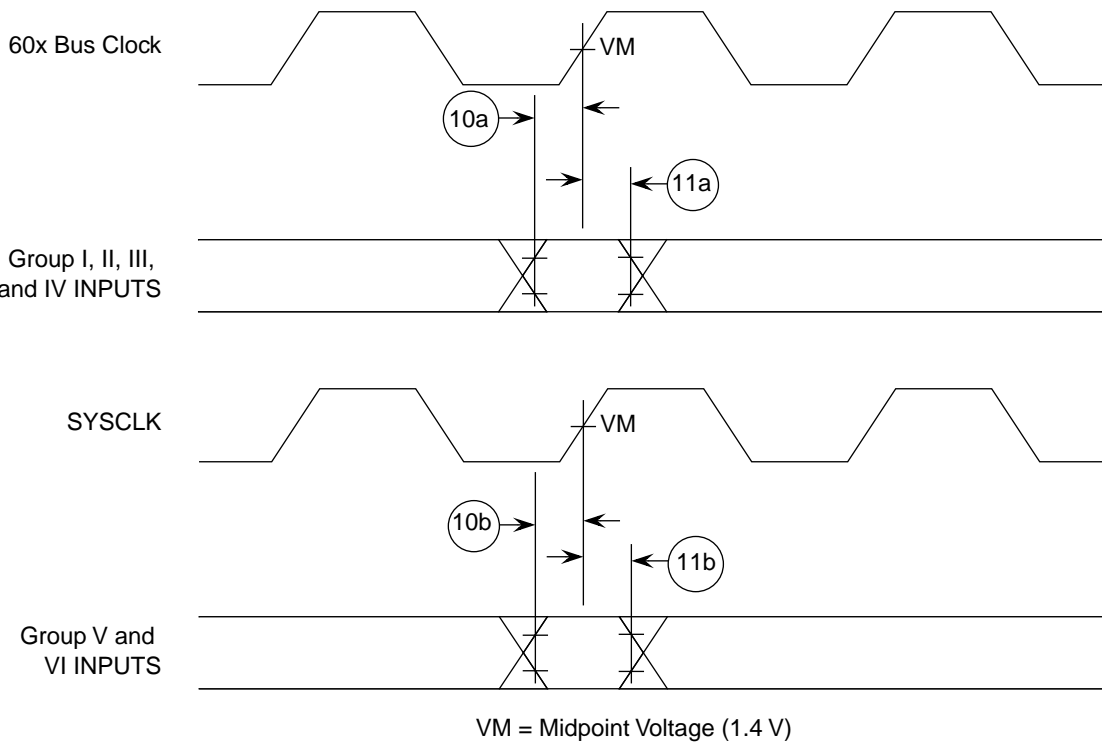
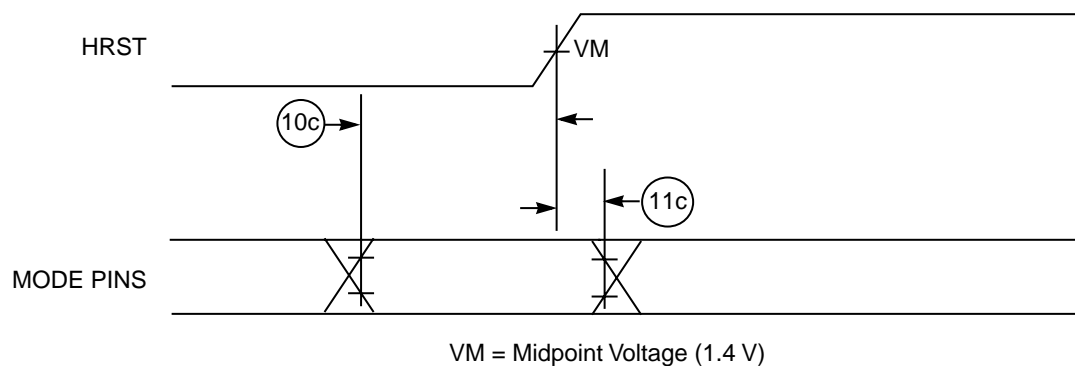

Figure 3. Input Timing Diagram
Figure 4. Mode Select Input Timing Diagram
Table 7 provides the input AC timing specifications for the 106 as defined in Figure 3 and Figure 4. These specifications are for operation between 16.67 and 33.33 MHz PCI bus clock (SYSCLK) frequencies. Assume V_{dd} = AV_{dd} = 3.3 ± 5% V DC, GND = 0 V DC, and 0 ≤ T_j ≤ 105 °C.
- ¹ Input specifications are measured from the TTL level (0.8 or 2.0 V) of the signal in question to the 1.4 V of the rising edge of SYSCLK. Both input and output timings are measured at the pin (see Figure 3).
- ¹⁰ The setup and hold time is with respect to the rising edge of HRST (see Figure 4). Mode select inputs include the RCS0, FOE, and DBG0 configuration inputs.
Figure 3 provides the input timing diagram for the 106.
Figure 4 provides the mode select input timing diagram for the 106.